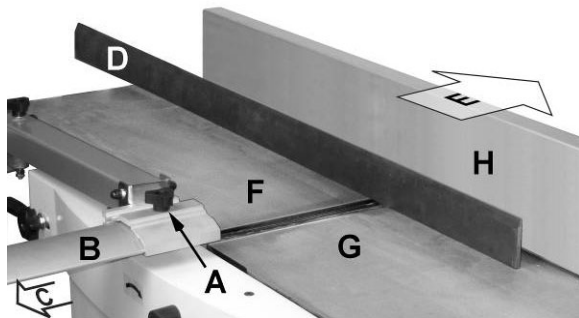

Figure 8
Refer to Figures 8 and 9:
2. Loosen the *lock knob* (A) and slide the *cutterhead guard* (B, C) to clear the table.
5. Place a *straight edge* (D) across the back of the *outfeed table* (F) and extending over the *infeed table* (G). Note the position of the *infeed table* (G). Note the position of the straight edge in Figure 8 with respect to the *fence* (H).
6. Raise the *infeed table* (G) until it contacts the *straight edge* (D).
2. Remove the *cutterhead guard* (B, Fig. 8).
- Remove the *cutterhead guard* (B, Fig. 8).